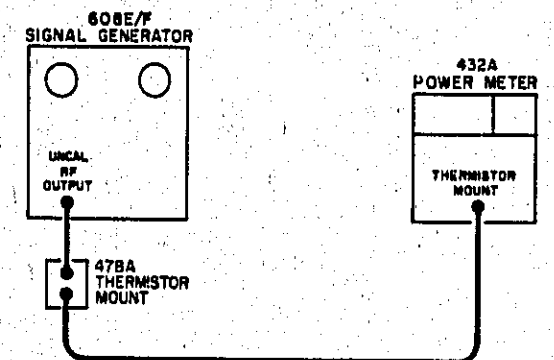

Figure 5-6. Uncalibrated RF Output Test Setup
- Connect signal generator in test setup illustrated in Figure 5-6.